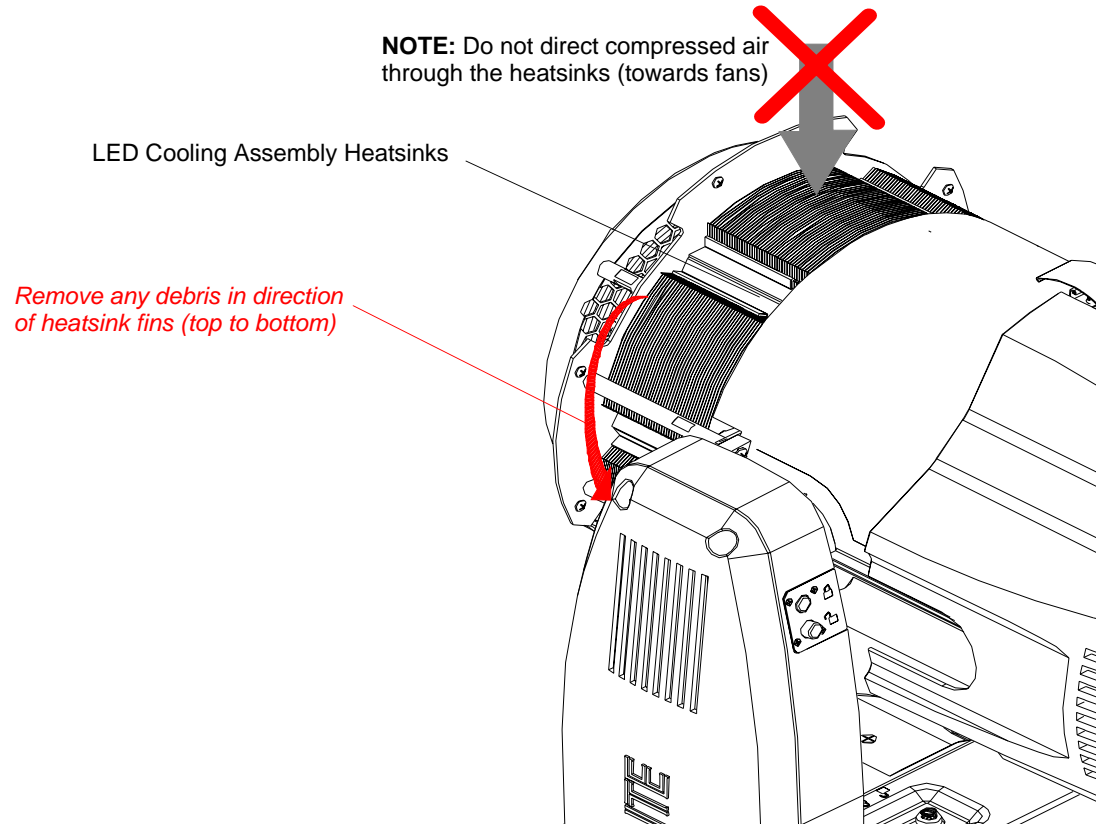

Figure A-12: VLX Wash Cooling System Heatsink Cleaning
- Step 7. As indicated in Figure A-12, at LED cooling assembly heatsinks, run Mottler brush gently through and in the direction of the heatsink fins from top to bottom so debris will fall down and away from assembly. Care should be taken as not to damage heatsinks.